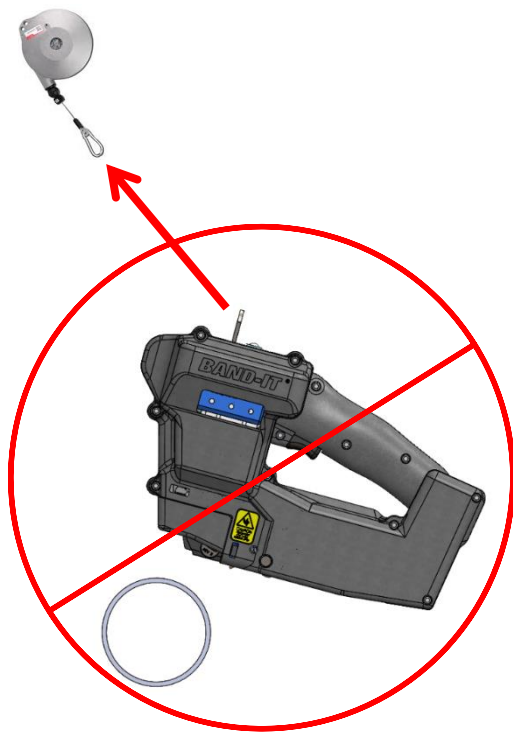

Figure 32
- The tool needs to be located directly above the clamp location if using a balancer as shown below (Figures 32 & 33).